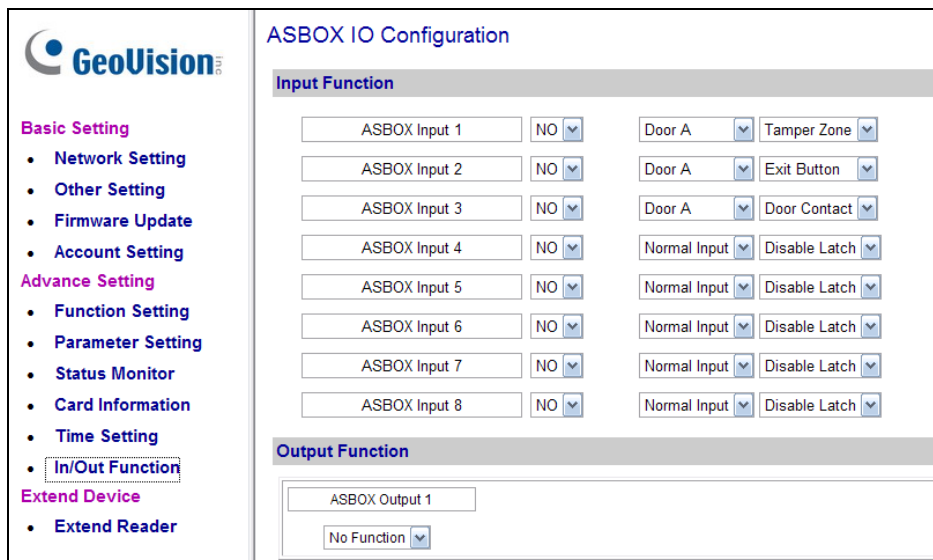

Figure 9-23
Select **Yes** or **No** to enable or disable the alarm function. If you have defined the alarm conditions in [Output Function] of the **In/Out Function** page (Figure 9-23), remember to activate the corresponding alarms here; otherwise, even though the alarm conditions are met, the expected alarm will not be triggered. The default settings for all the alarms are set to **NO**.
**Control Mode** will change depending on the chosen Door/Gate's **Authentication Mode** in the **Function Setting** page (Figure 9-15). The listed number of outputs will change depending on the chosen **Output Type** in the **In/Out Function** page (Figure 9-23).